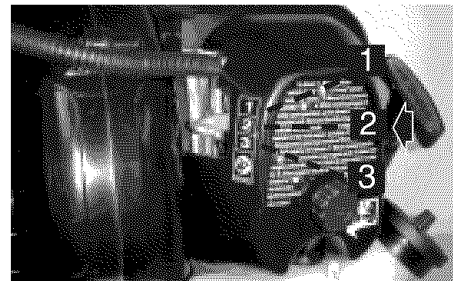
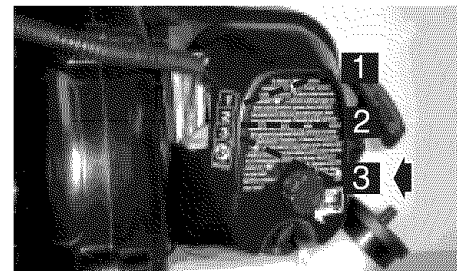

Fig. 13
Fig. 14
5. Pull starter rope 4-6 times-if unit does not start move choke lever to position 2 and pull 4-6 more times (Fig. 13). Wait 10 sec. after unit starts then move choke lever to position 3. (Fig.14)